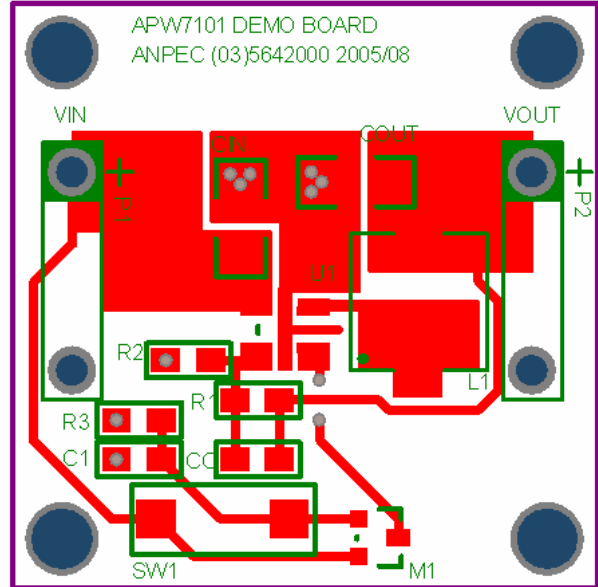

Figure-6
- <1> Keep the power trace wide and short as possible. The power trace shows in the Figure-6 as thick solid lines.